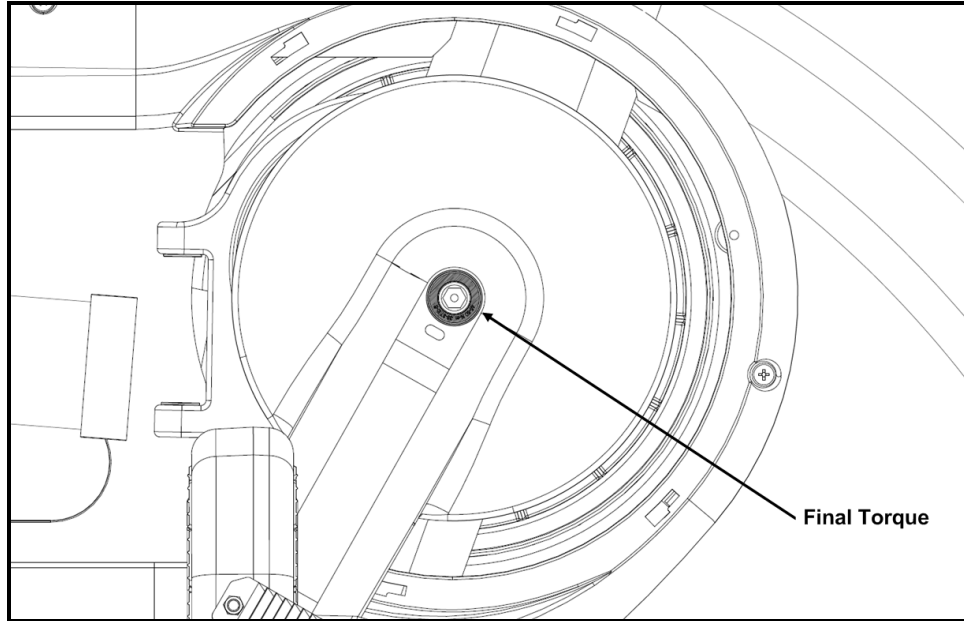

Fig. 8
8. Lock each crank arm to the bottom bracket by applying *Final Torque of: 33-37 Lb-Ft (45-50 Nm)* to each of the specialized securing socket head bolts (Fig. 8) using a torque wrench.